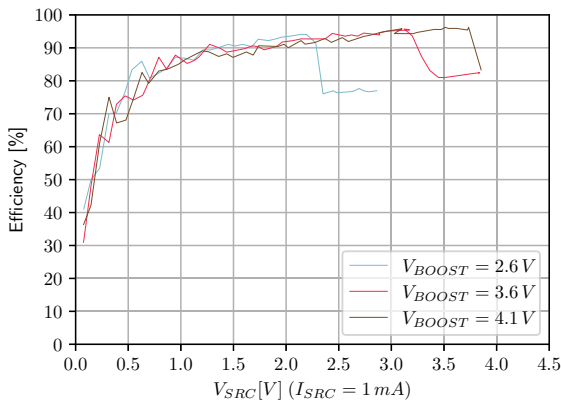

Figure 9: Boost efficiency for  $I_{SRC} = 1$  mA
- **VBOOST**: Measure the current and the voltage. Repeat the measurement a copious number of times to be sure to capture the current peaks. Figure 9 has been obtained by averaging over 100 measurements configured with a 100 ms integration time.